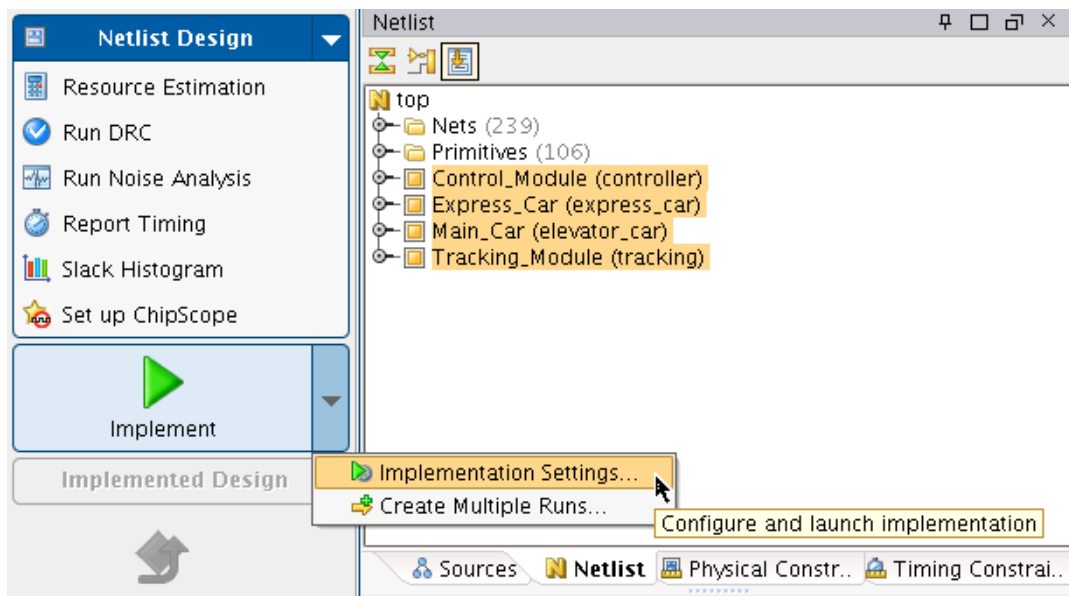

Figure 4: Implementation Settings
- From the Implement button pull-down, select **Implementation Settings**, as shown in Figure 4.